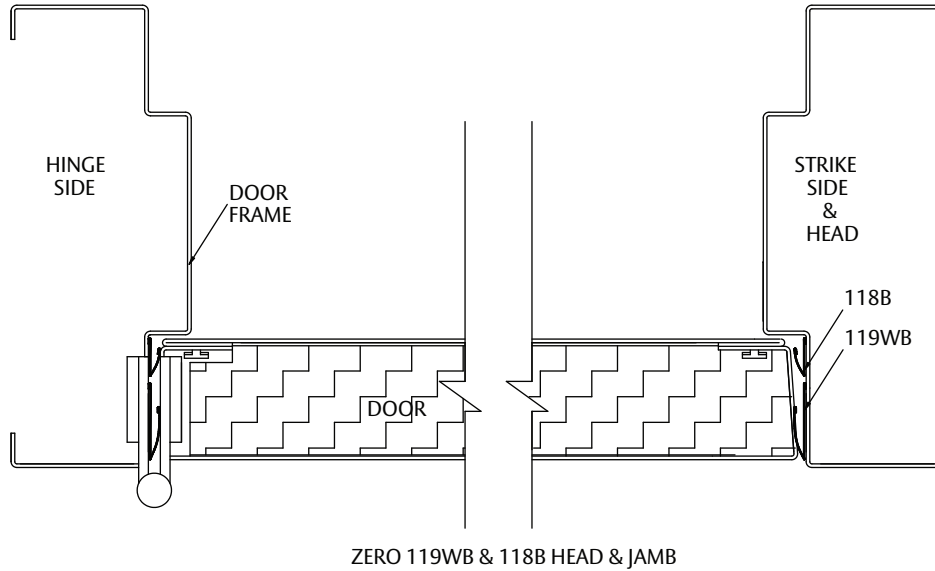

FIGURE 4
## STEP 5 INSTALLATION OF ZERO 119WB & 118B SEALS (FIGURES 4 & 5)
1. INSTALL THE HEAD PIECE FIRST ALONG THE ENTIRE LENGTH OF THE HEAD. MEASURE AND CUT THE SPRING SEAL TO SIZE AND PLACE PROPERLY, REFERRING TO FIGURE 4 FOR LOCATION ON THE HEAD. REMOVE THE PAPER BACKING FROM THE SELF-ADHESIVE STRIP, ALIGN ON THE HEAD ( $1/8"$  INSET FROM FACE) AND PRESS FIRMLY INTO PLACE.
4. INSTALL THE STRIKE JAMB SPRING SEAL LAST, FOLLOWING PROCEDURES 2 & 3. THE 119WB WILL HAVE TO BE NOTCHED AT THE STRIKE. (ONLY NOTCH THE LEG WITH SELF-ADHESIVE STRIP). SEE NEXT PAGE FOR FIGURES 4 & 5.
5. INSTALL 119WB SPRING SEAL ON THE BOTTOM. MEASURE AND CUT 119WB TO FIT ALONG THE ENTIRE LENGTH OF THE BOTTOM OF THE DOOR. REMOVE THE PAPER BACKING FROM THE SELF-ADHESIVE STRIP, ALIGN ON THE BOTTOM OF DOOR (FLUSH ON HINGE KNUCKLE SIDE) AND PRESS FIRMLY INTO PLACE (REFER TO FIGURE 4 FOR PLACEMENT ON THE BOTTOM OF THE DOOR)